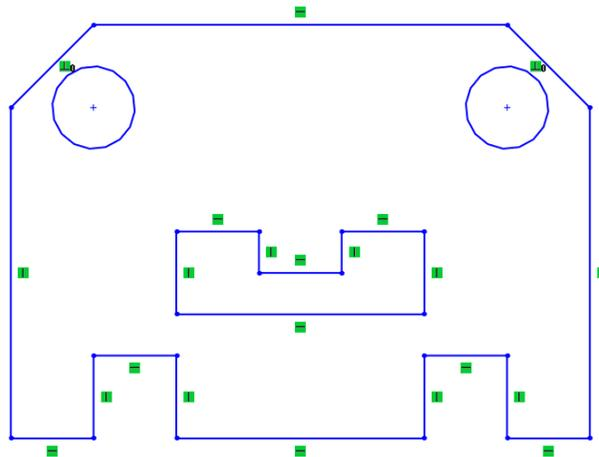

Figure 2-74 Final sketch for Tutorial 4
13. Choose the **Zoom to Fit** button from the **View (Heads-Up)** toolbar to fit the display of the sketch into the screen. The final sketch for Tutorial 4 is shown in Figure 2-74.